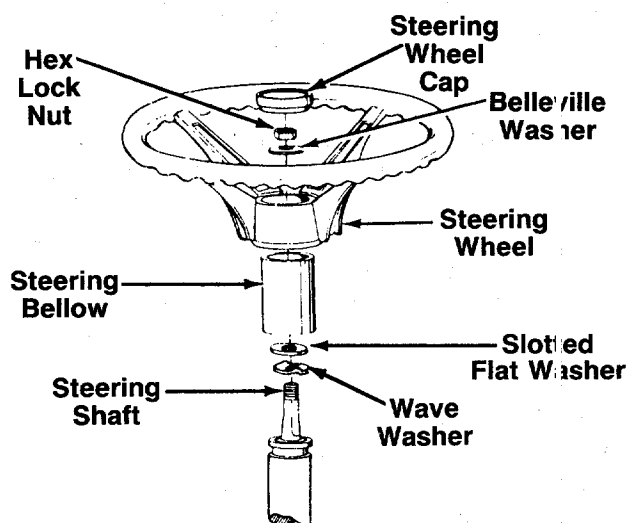

FIGURE 5.
STEERING WHEEL INSTALLATION (See Figure 5)
6. Place the washer with the cupped side down over the steering shaft. Secure with 5/16" hex lock nut. See figure 5.